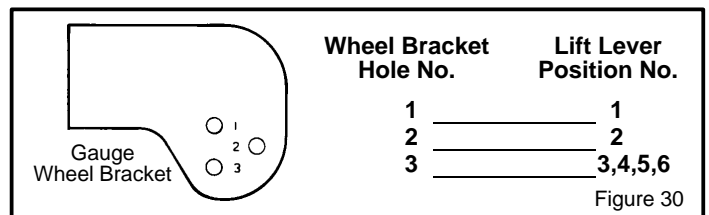

Figure 30
3. Look at each **gauge wheel bracket**. There are 3 holes in each bracket and a number next to each hole. The number for the height of cut position on the **lift lever** indicates the correct hole to use on each **gauge wheel bracket** (Figure 30).
4. Assemble the axle bolts to the **gauge wheel brackets** using the correct hole in the bracket as indicated (Figure 30).
NOTE: If the height of cut position is changed by the lift lever, you must move the gauge wheels to the correct hole (Figure 30) to keep a level height of cut.